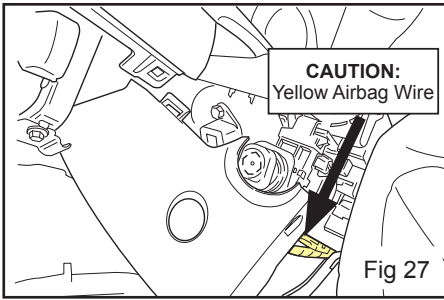

Fig 27
23. Feed the bottom steering column cover around the telescoping button. (Figure 27)
**Caution: Do not touch or disconnect the yellow wire!!! This is your SRS Airbag Wire. (Figure 27 & 28)**
24. Unplug OEM Factory Connector from (A). Plug Lightbar Connector into (A). Take Piggyback connector (C) and plug OEM Factory Connector (B).